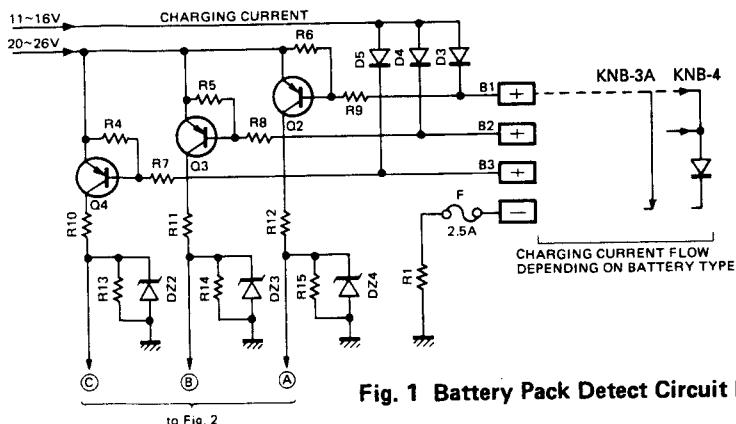

Fig. 1 Battery Pack Detect Circuit Block Diagram
When a KNB-3A or KNB-4 is inserted in the charger, a small amount of current flows from Q2 : 2SA608E through R9 to the charging terminal B1 and Q2 turns on. As a result, an output of approximately 11V appears at (A) in **Figure 1**. Similarly when a KNB-4 is inserted Q3 : 2SA608E turns on and approximately 11V is provided at output (B). When a KNB-3A or KNB-4 is charged, Q4 is off and 0V is provided output (C).